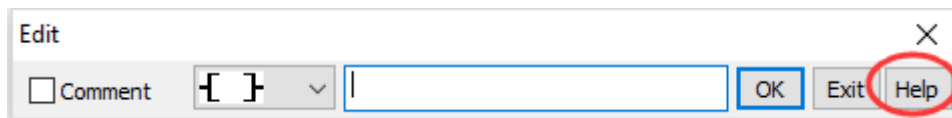
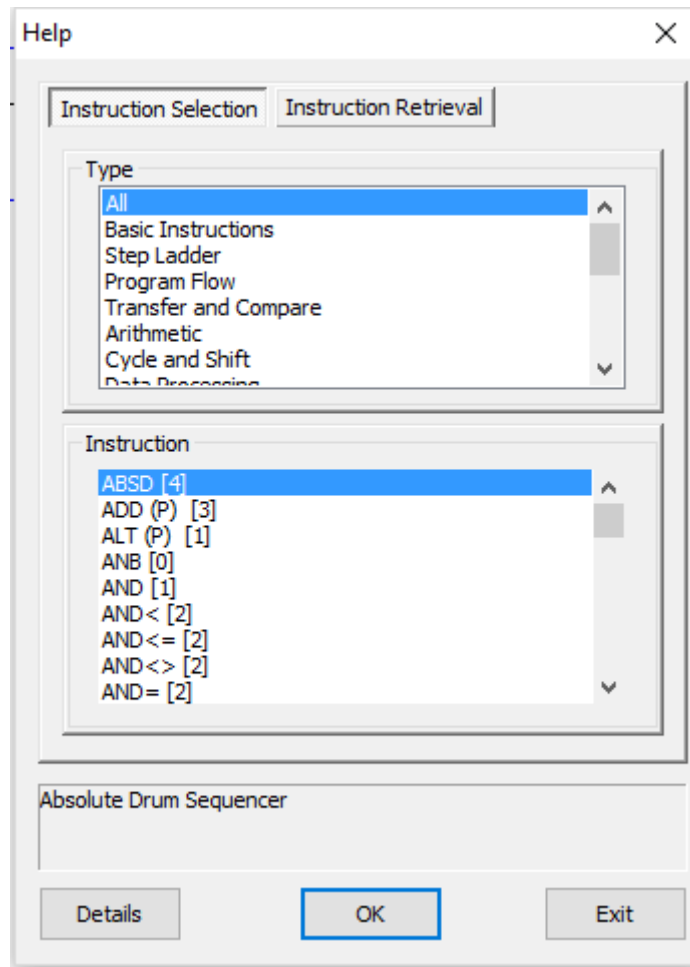

Figure 4-3
Figure 4-4
- 3) Click [Help] in [Edit] window, as Figure 4-3 shows, it will pop up [Help] windows for all the PLC instructions, as Figure 4-4 shows;